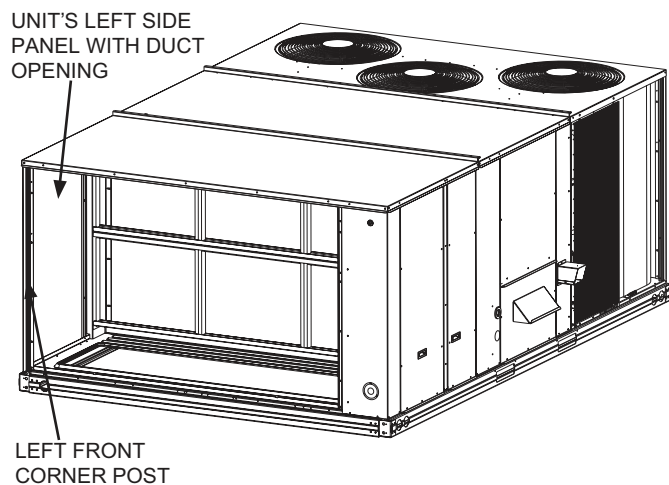

Fig. 21 — Remove unit Corner Post and Side Panel
The unit has a horizontal duct opening next to the horizontal supply duct opening. However, in this application, with an economizer, the horizontal duct will actually come into the unit underneath the outdoor air hood. (See Fig. 21 and 22.)
4. Remove the unit's left side corner post and left side panel from the unit to allow for easy economizer installation. (See Fig. 21.)